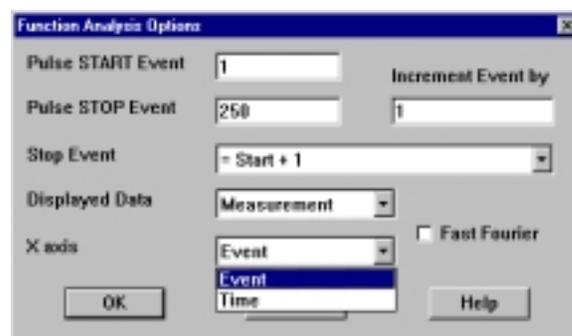

Figure 4.22 Function X-Axis
- **X Axis:** Select the horizontal plot axis (See Fig. 4.22):